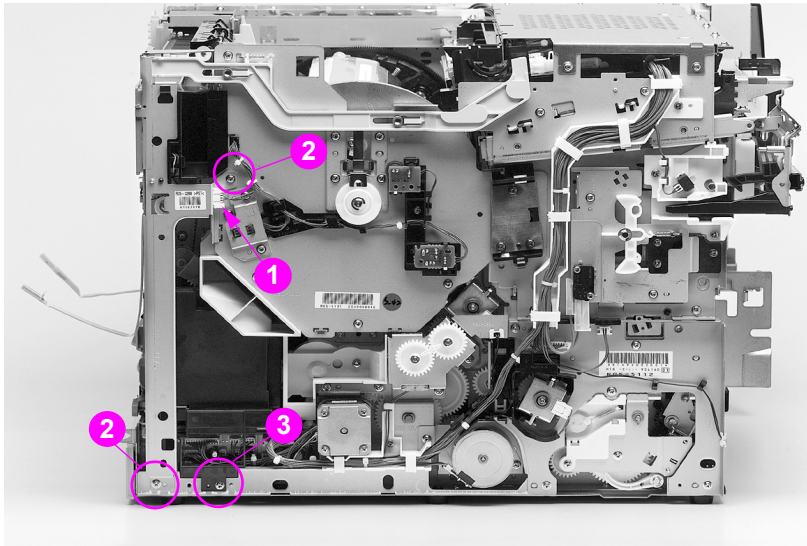
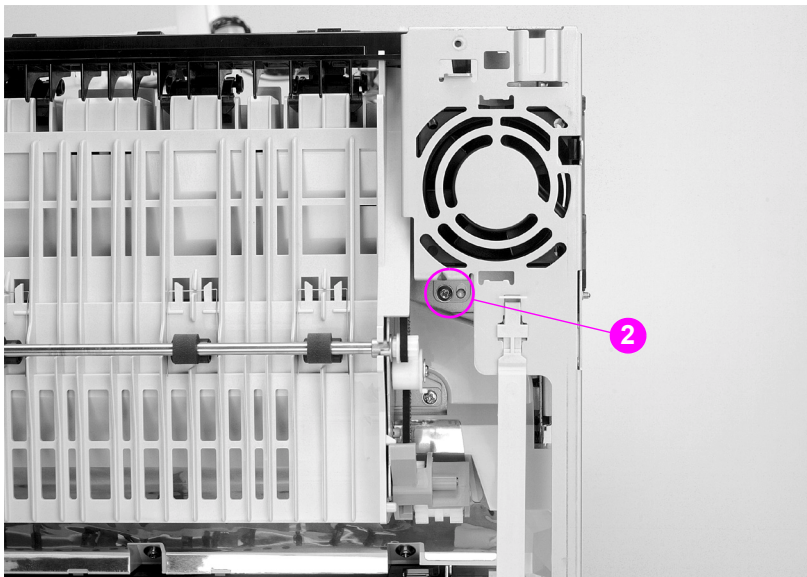

Figure 6-44 Paper feed PCB removal and replacement (1 of 3)
Figure 6-45 Paper feed PCB removal and replacement (2 of 3)
- 6 Remove the three screws from the left rear sheet metal fan shield shown in Figure 6-44 and Figure 6-45 (callout 2) and remove the shield.
- 7 Remove the screw in the black plastic cover shown in callout 3, Figure 6-44.